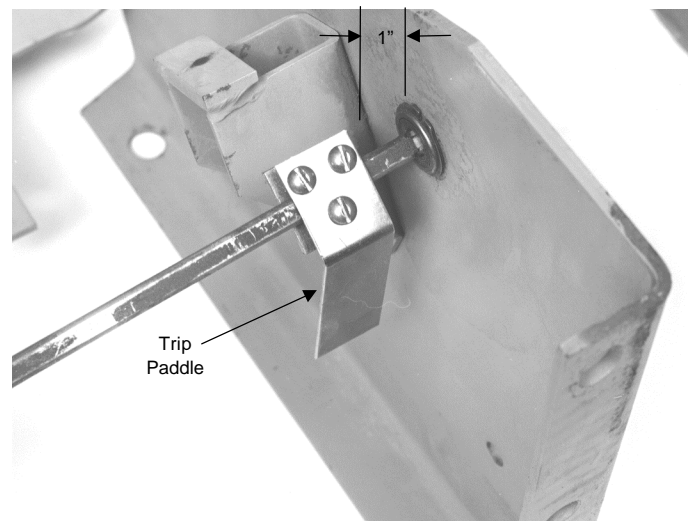

Figure 9. Installing the new trip paddle.
3. Slip the trip paddle over the trip actuator bar approximately one inch from the side frame, as shown in Figure 9. Insert the remaining 10-32 x  $\frac{3}{4}$ " screw and tighten the other screws to secure the trip paddle in place.